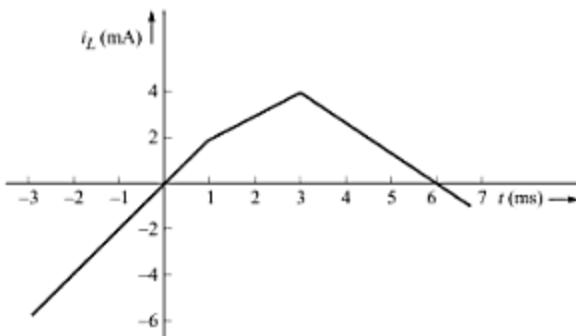

Fig. B-7
- B-34.** The current through a 0.2 H inductor is shown in Fig. B-7. Assuming the passive sign convention, find  $v_L$  at  $t$  equal to (a) 0, (b) 2 ms, and (c) 6 ms.